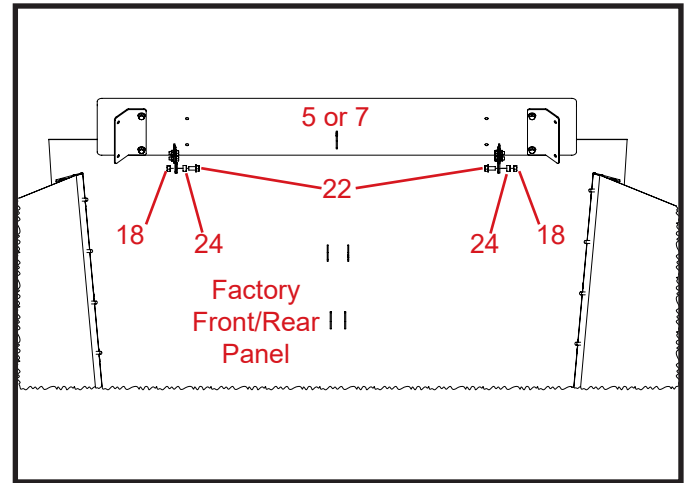

Figure 3
Use the 3/8" x 3/4" flange bolts (22), 3/8" ID x 3/8" L sleeve bearing (24), and 3/8" lock nuts (18) provided to attach the Front Panel Assembly (5) to the factory front panel. See Figure 3.